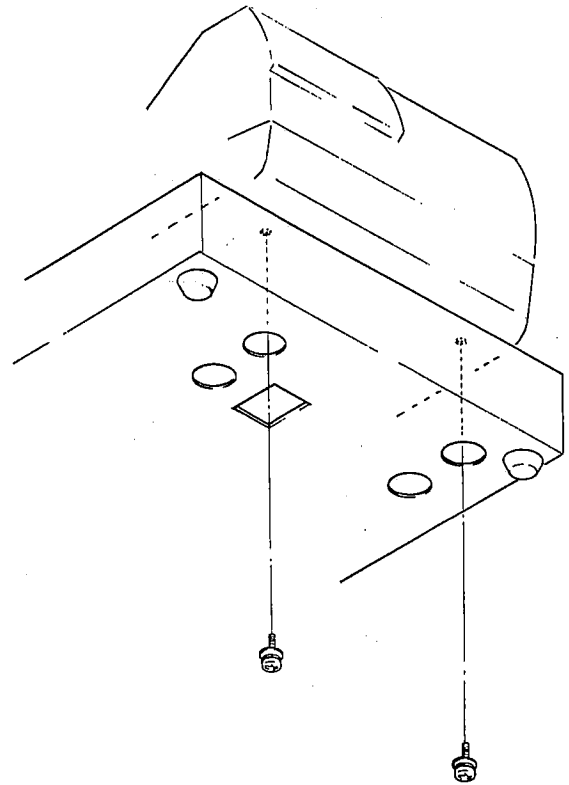

Fig. 9-7
- 1) Remove two screws in the drawer bottom plate and separate the drawer from the main body. (Fig. 9-7)